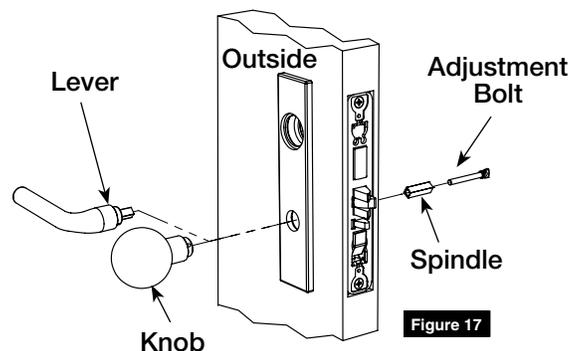

Figure 17
4. Install outside lever or knob by inserting adjustment bolt on opposite side of door. Tighten bolt finger-tight and loosen a few turns. (Figure 17)